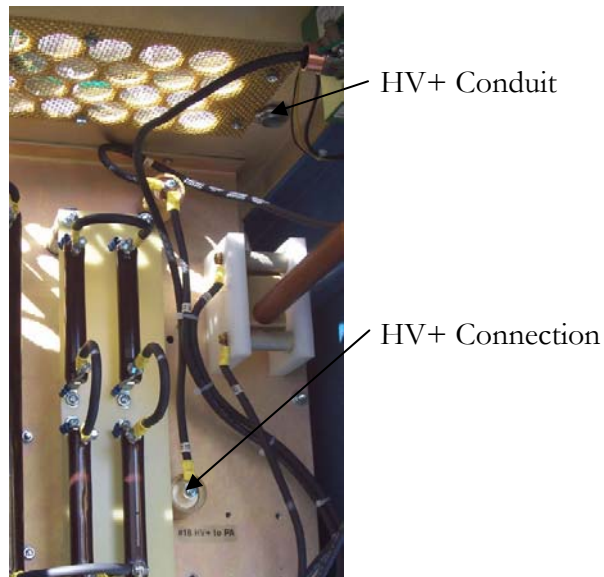

Figure 2-2
2.5.1.2 Connect the HV+ cable (single high voltage wire in metallic conduit) to the connector on the top of the PS cabinet. Connect the HV+ cable to the doorknob capacitor marked HV+ (Figure 2-2).